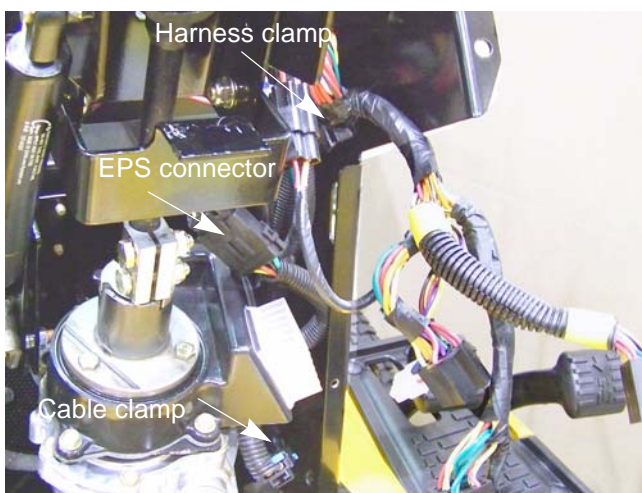

Figure 6B.19
9. Open the two harness clamps that hold the main harness to the dash support. See Figure 6B.19.